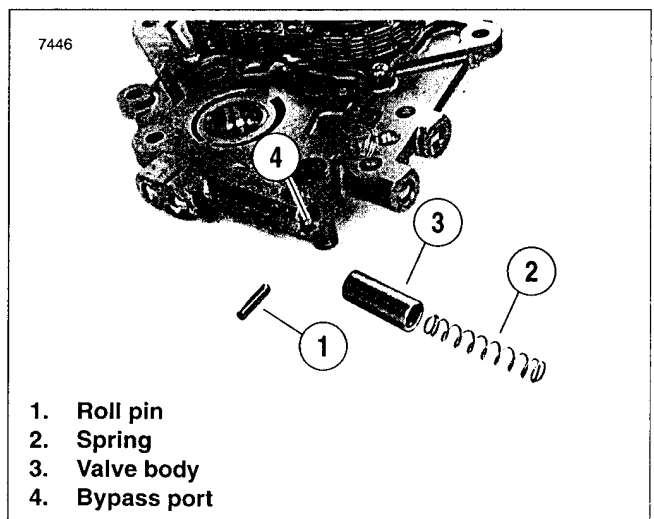

Figure 3-142. Oil Pressure Relief Valve Assembly
- See Figure 3-142. Using a 1/8 in. punch with a small hammer, carefully tap roll pin (1) from pin hole in cam support plate. Discard roll pin.
- Remove spring (2) and valve body (3) from bypass port.
- See Figure 3-142. Lubricate valve body (3) with clean H-D 20W50 engine oil. Slide valve body into bypass port of cam support plate with the open side facing outward.
- Slide spring (2) into bypass port until seated in open side of valve body.
- Start **new** roll pin (1) into hole in cam support plate. Compress spring in port using the blade of a small screwdriver.